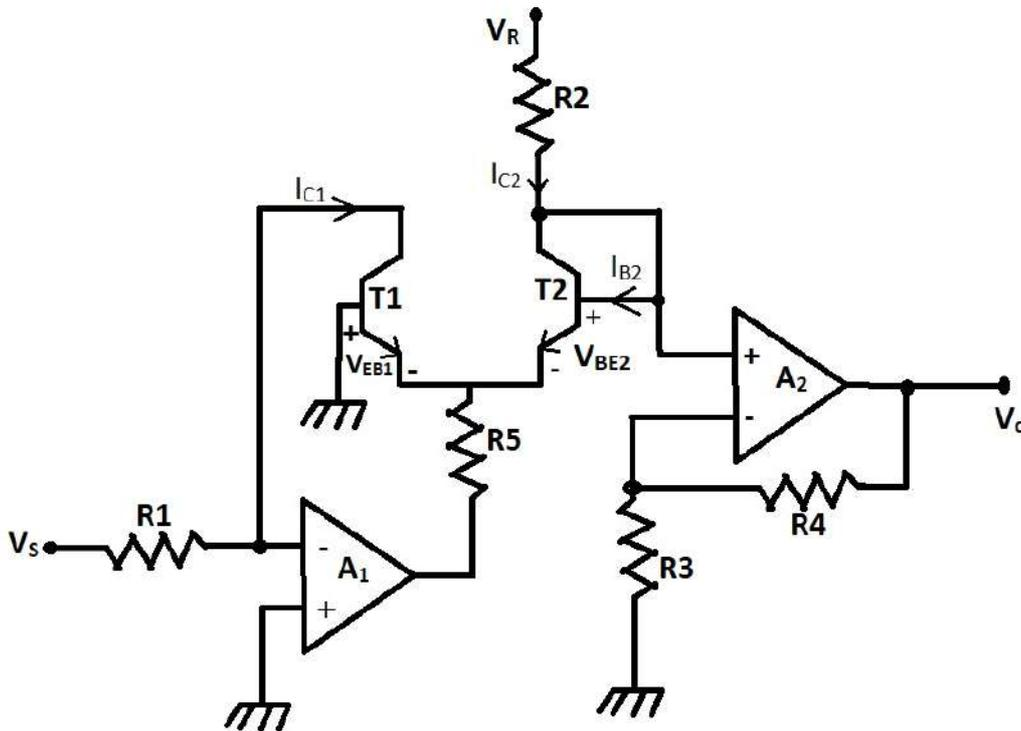

Fig. 1.2: A Logarithmic amplifier using matched transistors
From Fig. 1.2, we can write
$$\begin{aligned} \text{From Fig. 1.2} \quad I_{C1} &= \frac{V_S}{R_1} \quad \text{and} \quad I_{C2} = \frac{V_R}{R_2} \\ \therefore V^+ &= -V_T \times \ln\left(\frac{V_S}{R_1} \times \frac{R_2}{V_R}\right) \quad \dots (11) \end{aligned}$$
- Also for using matched transistor construct the circuit of Fig. 1.2 preferably on a bread board. And repeat the 2,3 and 4 process.